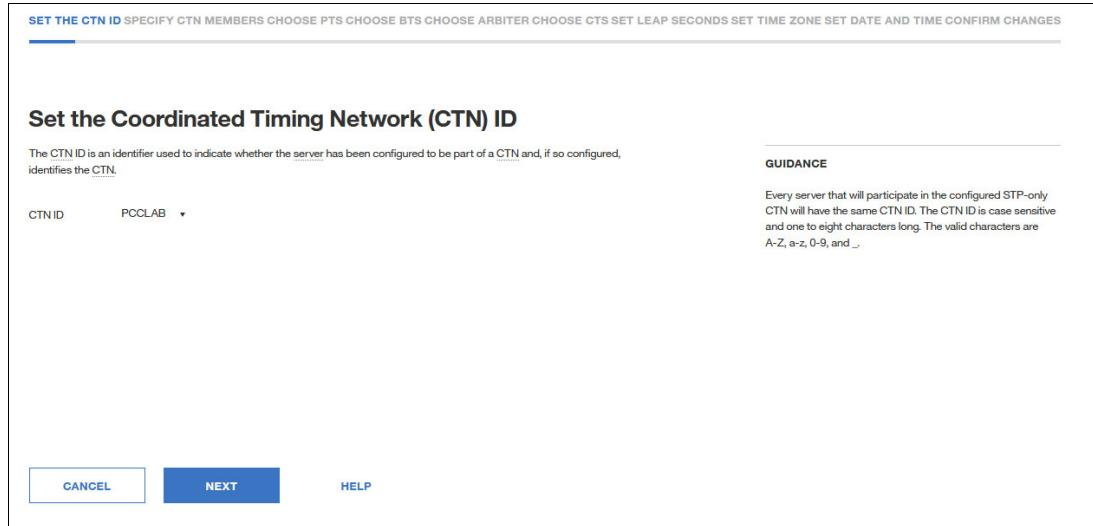

Figure 8-34 Set the Coordinated Timing Network (CTN) ID
- The **Set the Coordinated Timing Network (CTN) ID** window opens. Enter the CTN ID in the column. Click **NEXT** to continue (Figure 8-34).